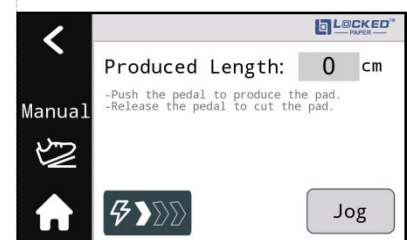

Figure 1
1) Tap  in the homepage to enter this mode. (Figure 1).